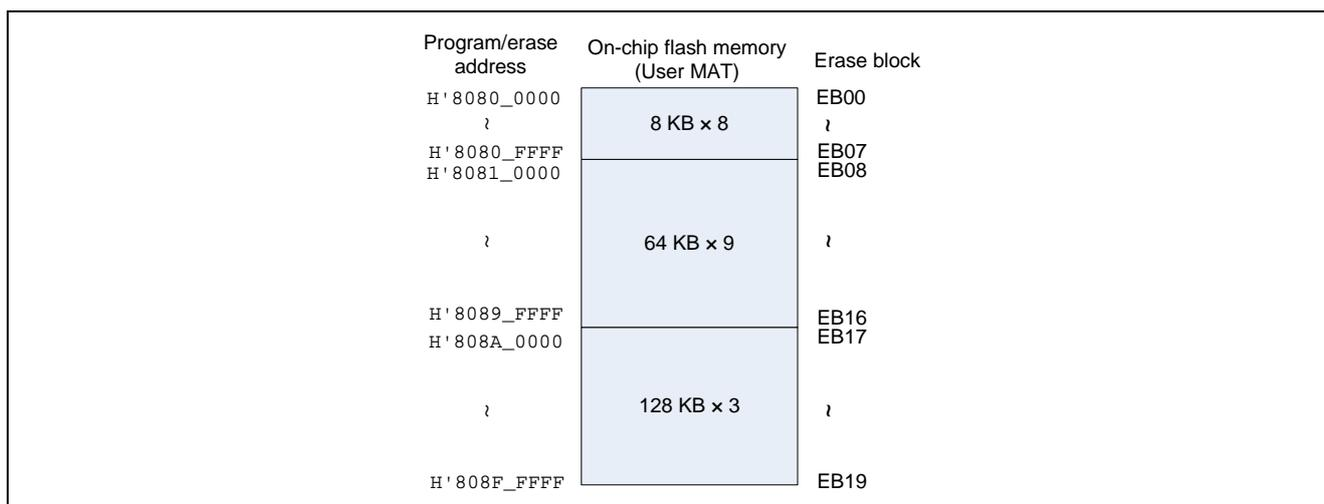
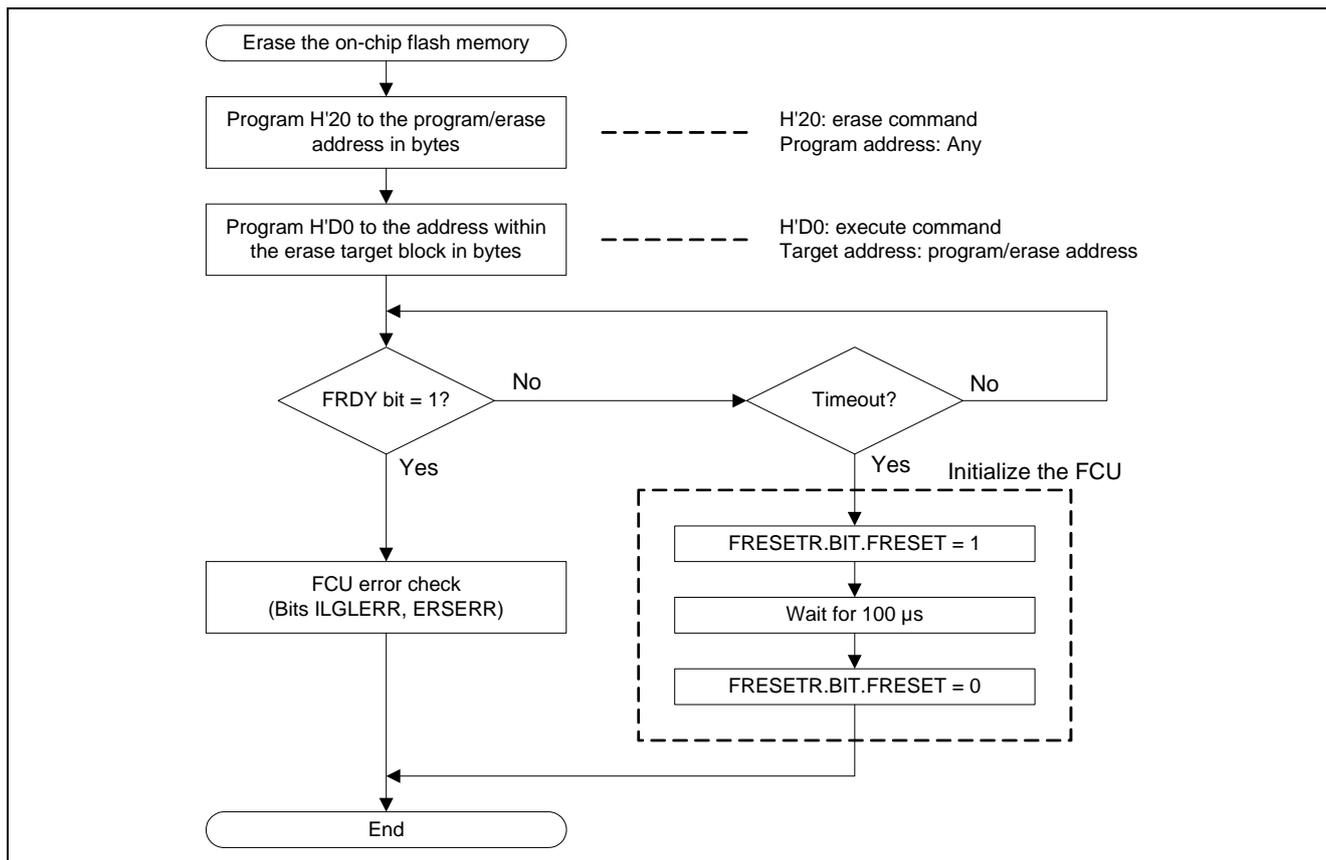

Figure 5 Dividing the On-chip Flash Memory Erase Block
Figure 6 Flow Chart for Erasing the On-chip Flash Memory
Figure 5 shows the block division of the SH7216. Table 1 lists each block and address. Figure 6 shows the flow chart (2) for erasing the on-chip flash memory.
2. The flow chart in Figure 6 does not follow the standard API.